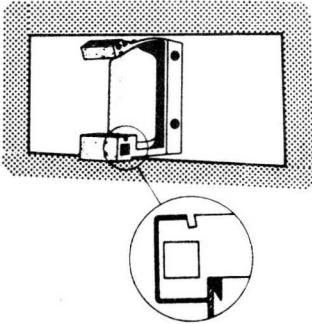

Fig. 2a
2. Slide the snap-fit tube holders into position one by one, see Fig. 2a and 2b.